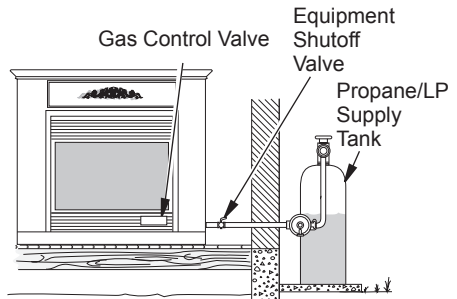

Figure 24 - Checking Gas Joints (Propane/LP Only)
3. Check all joints from gas meter to equipment shutoff valve for natural gas or propane/LP supply to equipment shutoff valve for propane/LP (see Figures 24 or 25). Apply noncorrosive leak detection fluid to all joints. Bubbles forming show a leak.
4. Check all joints from equipment shutoff valve to gas control valve (see Figures 24 or 25). Apply noncorrosive leak detection fluid to all joints. Bubbles forming show a leak.